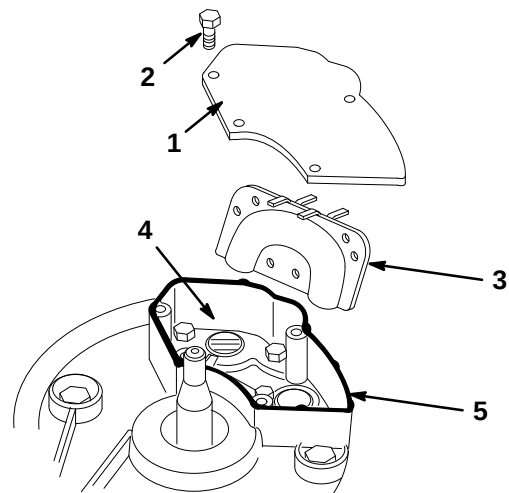

Figure 33
5. Remove the four capscrews attaching the cover plate to the engine mounting plate (Fig. 33).
6. Remove the transfer pipe (Fig. 33).
8. Rotate the crankshaft slowly until the piston covers the exhaust port (Fig. 33).
12. Wipe the bottom of the cover plate and the edge of the engine mounting plate where the sealant will go with a clean cloth to remove any dirt (Fig. 33).
13. Run a bead of high temperature, automotive silicone sealant along the edge of the engine mounting plate where the cover plate will rest (Fig. 33).
14. Install the transfer pipe and cover plate (Fig. 33), torquing the four capscrews to 75 in-lbs. (8.5 N·m).